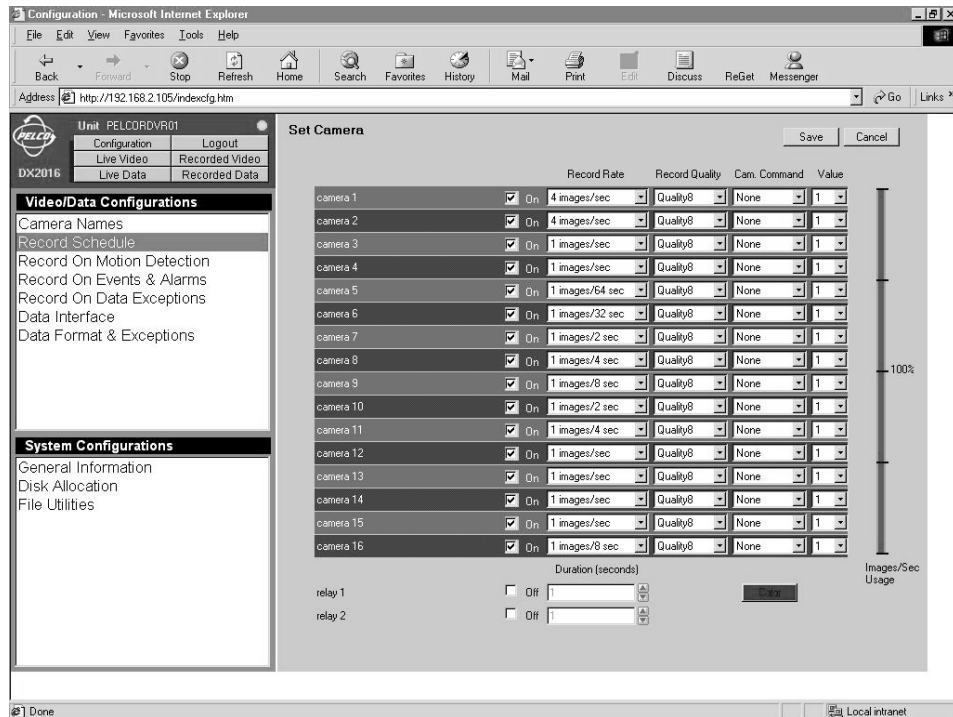

Figure 13. Set Camera Screen
- b. Double-click the bar to the right of a check-marked time. The program displays the Set Camera screen (refer to Figure 13).
- c. Click one of the bars in the marked block. The program displays the Set Camera screen (refer to Figure 13).
4. On the Set Camera screen (refer to Figure 13), checkmark boxes of the cameras you wish to turn on for the selected time period.
3. Click the **Set Camera** button of that camera. The program displays the Set Camera screen. Refer to Figure 13.